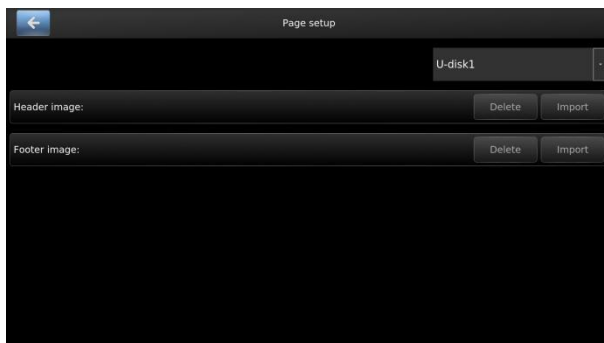

Fig. 12-1
**Page setting:** The header and footer images are imported through an external USB (as shown in Fig. 12-1).